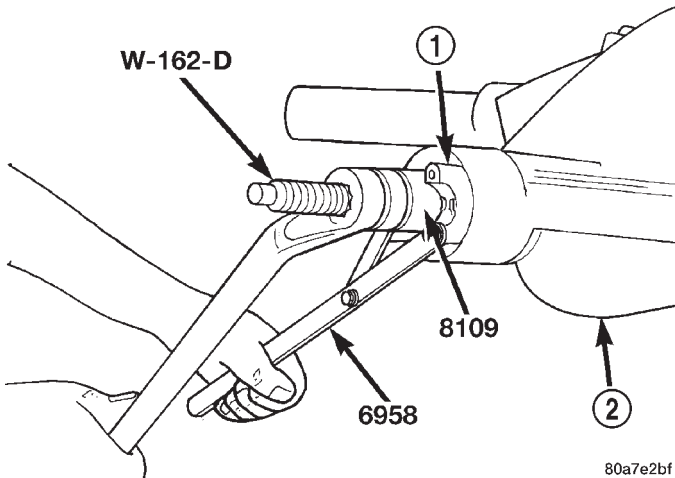

Fig. 19 Pinion Yoke Installation
- (5) Install yoke with Installer W-162-D, Cup 8109, and holder 6958 (Fig. 19).
- (6) If the original pinion bearings are being used, install differential assembly and axle shafts, if necessary.